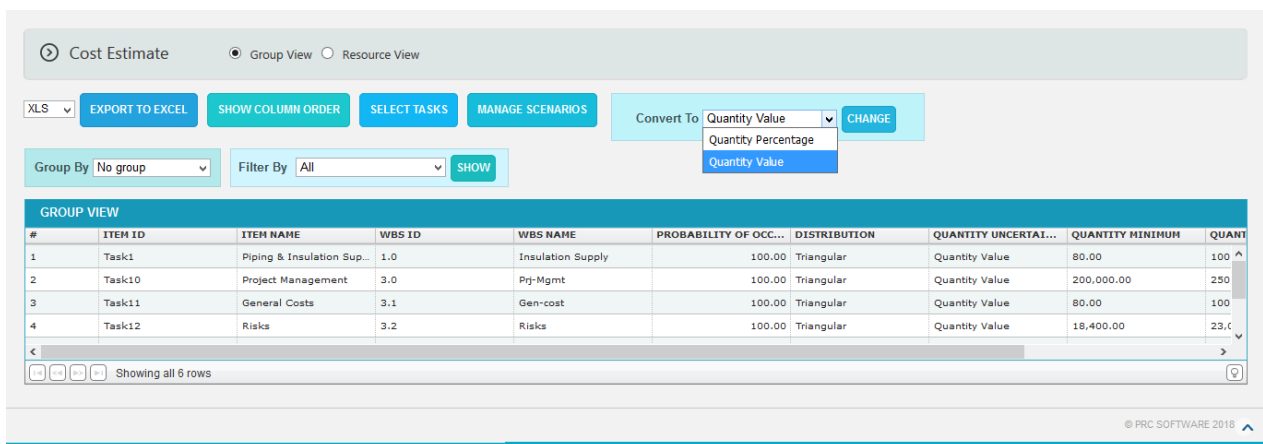

Figure 2.19
3. Click on **CHANGE** button. The converted type will update in the Group View table. (Figure 2.19)